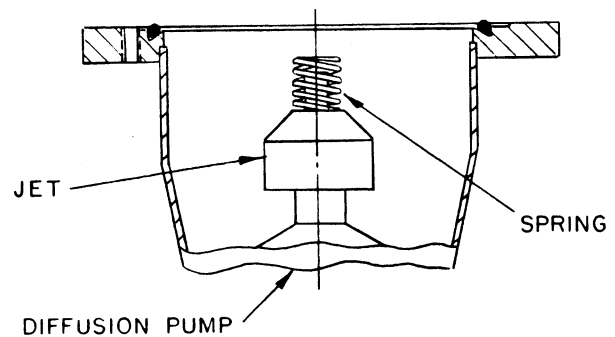

Figure 6-23. Position of Jet Top When Jet is Firmly Seated
1. Install jet in diffusion pump body so that two of the five guide protrusions straddle the foreline opening. Be sure that the jet is firmly seated (top approximately 1/2 inch below pump flange) (Figure 6-23).